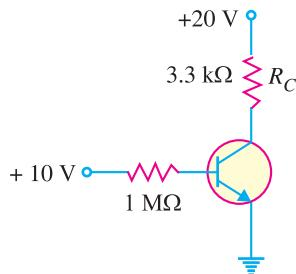

Fig. 8.70
8. Draw the d.c. load line for Fig. 8.70.
9. If the collector resistance R_C in Fig. 8.70 is reduced to $1\text{k}\Omega$, what happens to the d.c. load line?